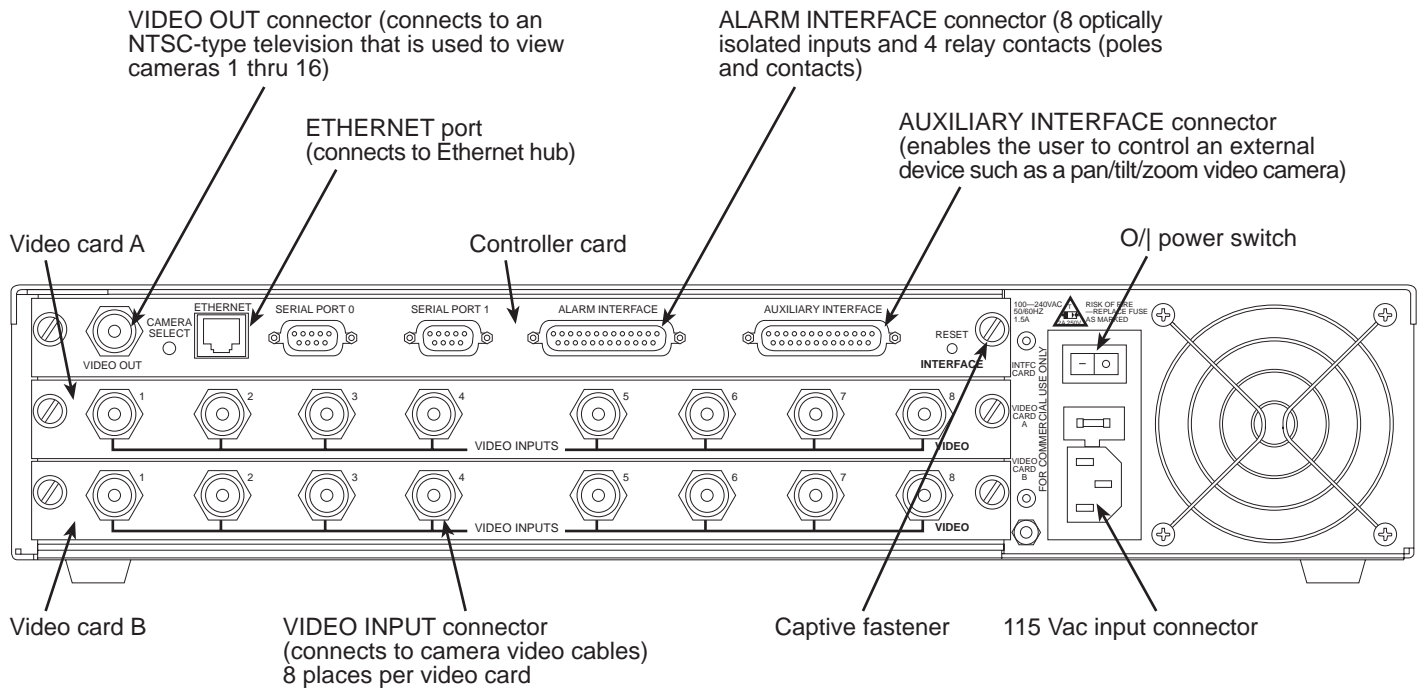

Figure 21. VCU rear panel
4. Using a flat-tip screwdriver, loosen the two captive fasteners on the controller card (see figure 21). Remove the controller card from the chassis.
7. Install the video cable from camera 1 onto the *VIDEO INPUTS—1* connector of video card A (see figure 21 on page 34 for connector location).
9. Install a cable between the *VIDEO OUT* connector (see figure 21 on page 34) and the *VIDEO IN* connector on an optional NTSC-type television monitor.
11. Plug the female end of the AC power cord into the 115 VAC input connector (see figure 21); plug the other end into a wall outlet or power strip.